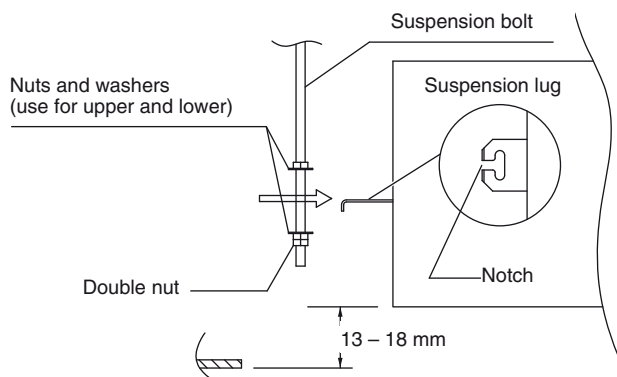

Fig. 3-5
- Thread the 3 hexagonal nuts (field supply) and 2 washers (supplied) onto each of the 4 suspension bolts (Fig. 3-5). Use 1 nut and 1 washer for the upper side, and 2 nuts and 1 washer for the lower side, so that the unit will not fall off the suspension lugs.